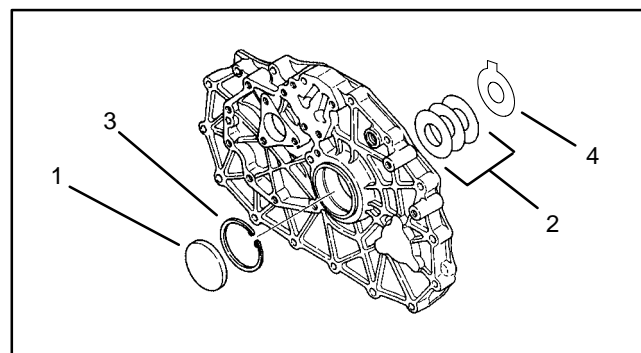

Figure 63
IMPORTANT: The center plate has one (1) tabbed shim (item 4) with three (3) tabless shims (item 2) (Fig. 63).
7. Inspect retaining ring (item 3) and shims (items 2 and 4) for damage (Fig. 63). Replace all parts if any component is cracked or broken.